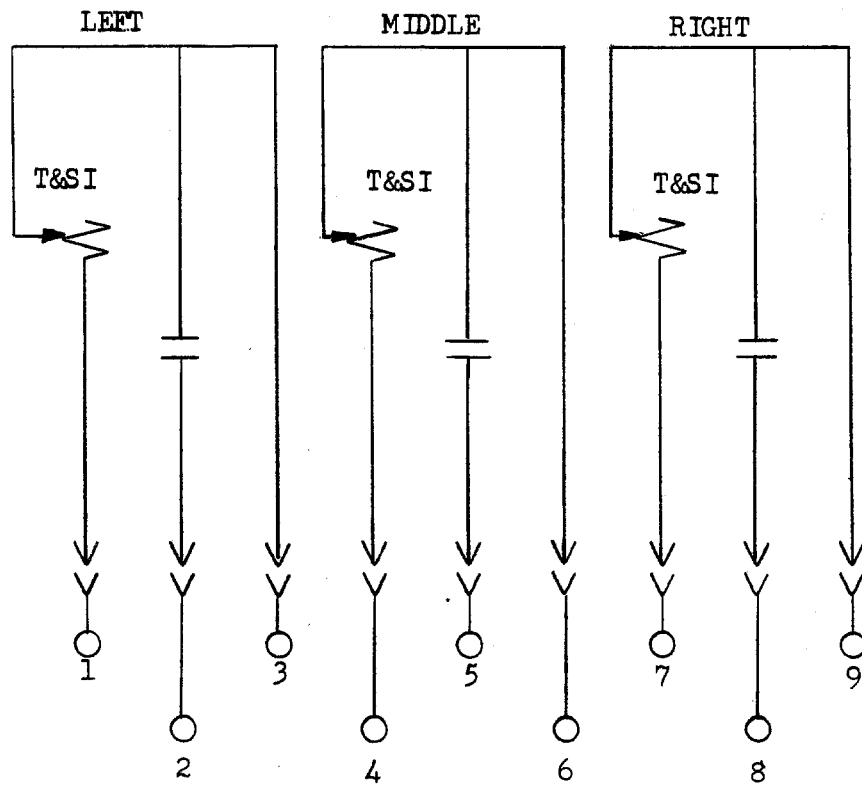

Fig. 2 (0178A9168-0) Internal Connections of the HAA99AE Relay
1. Check wiring using the internal connections diagram, Fig. 2. Check continuity of contact circuits with the armature picked up.
The internal connection diagram is shown in Fig. 2.